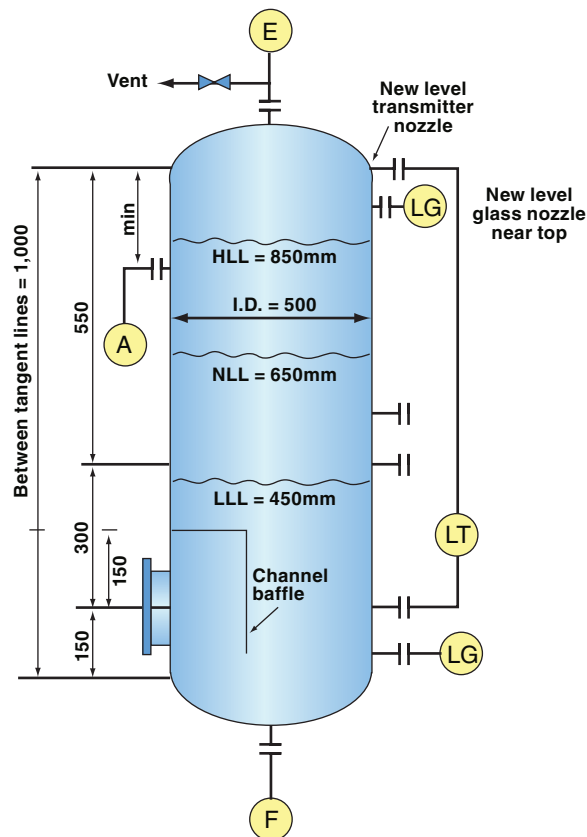

FIGURE 3. These drum modifications eliminated the hammer
sate inlet nozzle, the drum vapor space will come into contact with some of the subcooled liquid. The small amount of vapor will collapse onto the subcooled liquid, leading to hammering. For this reason, the top of the inlet nozzle must be liquid-covered at all times. To achieve this, the new condensate inlet nozzle needs to be placed as far down as practicable, while the liquid levels need to be set as high as possible. Figure 3 has some typical numbers. For the same reason, the upper tap of the level transmitter needs to be located as close to the top of the drum as possible. There is also a need of a level glass tap near the top of the drum.
1. Relocated the condensate inlet to the condensate drum so that it enters near the bottom of the drum. The centerline of the condensate inlet nozzle is about 150 mm above the bottom tangent line (Figure 3).
4. Installed a new upper level tap as close to the top of the condensate drum as possible (Figure 3), and used this for the level transmitter. Set LLL (low liquid level), NLL (normal liquid level) and HLL (high liquid level) points at 450 mm, 650 mm, and 850 mm, respectively.
5. Installed a new level glass tap near the top of the drum (Figure 3).